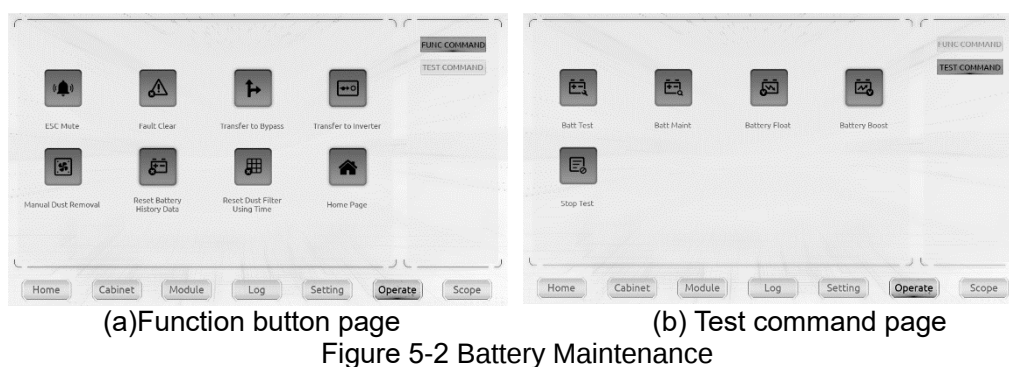

Figure 5-2 Battery Maintenance
1. Manual Discharging test. Enter the menu Operate, as is shown in Figure 5-2 and touch